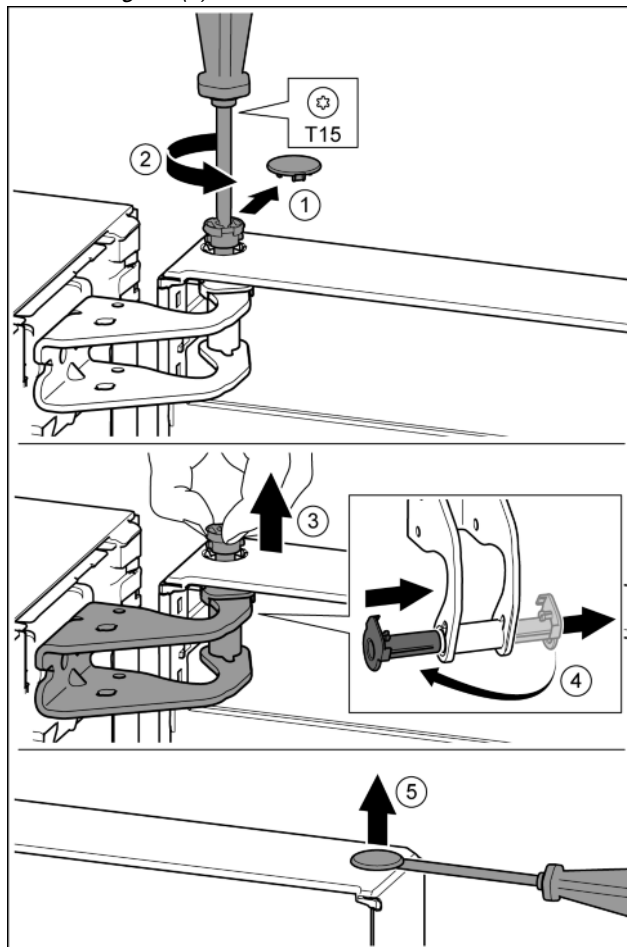

Fig. 11
- ▶ Carefully remove the protective cover. Fig. 11 (1)
- ▶ Undo the bolt a little with a T15 screwdriver. Fig. 11 (2)
- ▶ Hold the door and remove the bolts with your fingers. Fig. 11 (3)
- ▶ Pull the bearing bush out of the guide. Insert from the other side and click into place. Fig. 11 (4)
- ▶ Carefully lift the plugs out of the door bearing bush with a slotted screwdriver and remove. Fig. 11 (5)